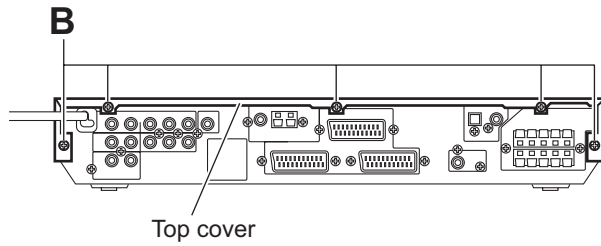

Fig.2
- (2) From the back side of the main body, remove the five screws **B** attaching the top cover. (See Fig.2)